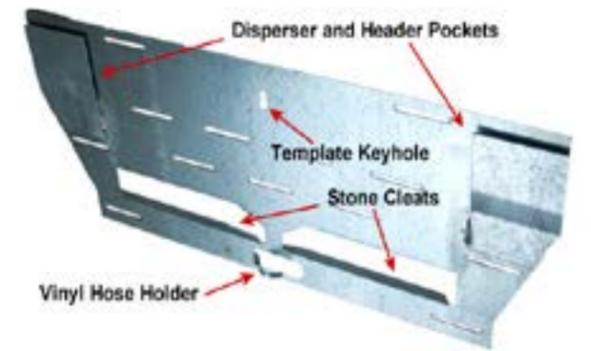

FIG. 2.1
3. Identify the Bracket Template (A) from the fountain components. The top of the template bracket (A) for both fountains will rest exactly 4" down from the overall height of each unit. Using the center mark of the fountain's width place the Bracket Template's (A) upper keyhole so you can see the center line through the hole. The keyhole should be in this position (Fig 2.1). Mark the top keyhole.
4. Using a Phillips screw driver and a small screw from your Hardware Bag (J) set the screw in the wall so that 1/4" is left protruding. Hang the Bracket Template (A) from this screw (Fig 2.2) making certain the keyhole is in the position shown in Fig 2.1.
5. Using the level make certain the Bracket Template (A) is vertically level and mark the placement of the lower keyhole. Remove the Bracket Template (A).